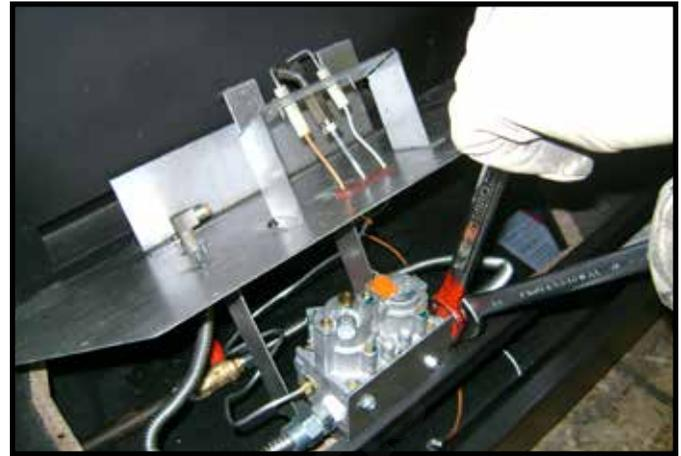
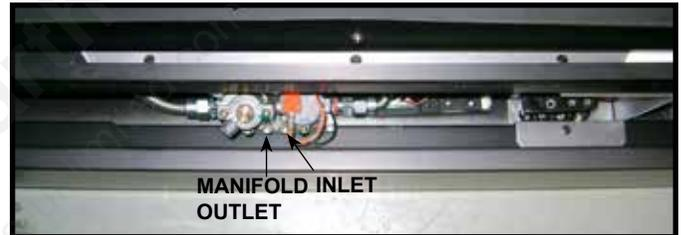

Figure 11.4. Disconnect Gas Valve
Figure 11.5. Pressure Taps
3. Set the valve bracket on the front lip of the firebox bottom. Turn "off" the ball valve. Disconnect gas valve from the gas flex ball valve assembly at the pressure fitting. See Figure 11.4.
Note: The manifold and inlet pressure tabs can be accessed from the front of the fireplace, this requires the decorative front and fixed glass assembly to be removed (see Figure 11.5). The manifold and inlet pressure tabs can also be accessed by removing the valve assembly (see Figure 11.4).